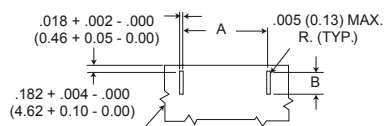

**Figure 4
3. Figure 4 is for edge board mounting bracket or edgeboard clip assembly. The .184 + .002 (2.67 ± 0.05) dimension locates the MD socket insulator flush with the end of the board.